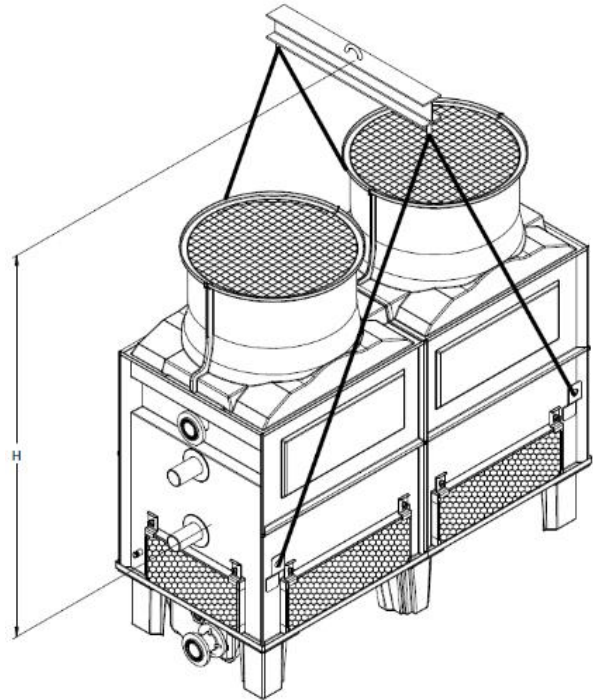
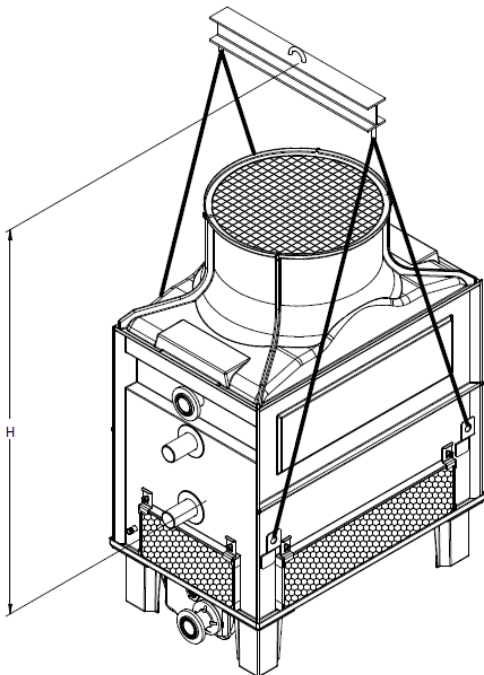

Figure 2 - Fully Assembled Unit, All 4'x9' models
Figure 1 - Fully Assembled Unit, All 4'x6' models
All 4' wide units ship as one fully assembled section. All four (4) lifting ears on the casing section are to be used for lifting and final positioning of the unit, as shown in Figure 1 and Figure 2. Spreader bars are recommended for the lift and must be a minimum dimension of "H" above the lifting ears. See Table 2 for minimum "H" dimensions.